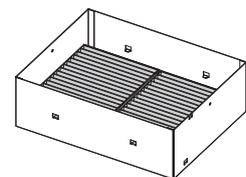

Fig. 3
- When the two air filter units are attached **(Fig. 3)**, proceed to “Attaching the long life filter cover” (➔ page 258) next.